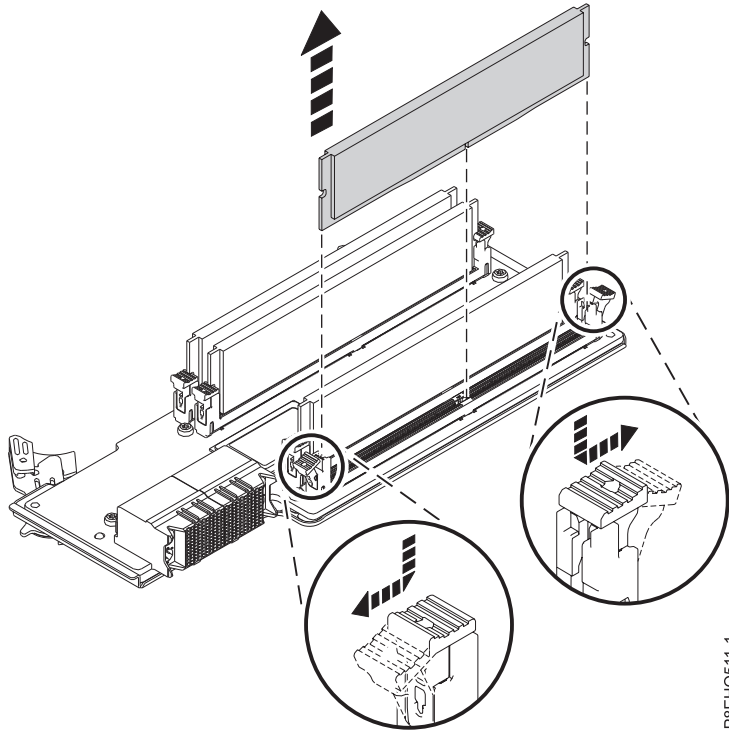

Figure 34. Removing memory DIMM from a slot on the riser
- a. Unlock the DIMM by pushing the locking tabs away from the DIMM, in the direction shown in Figure 34 on page 35. The lever action of opening the tabs pushes the memory DIMM out of the slot.